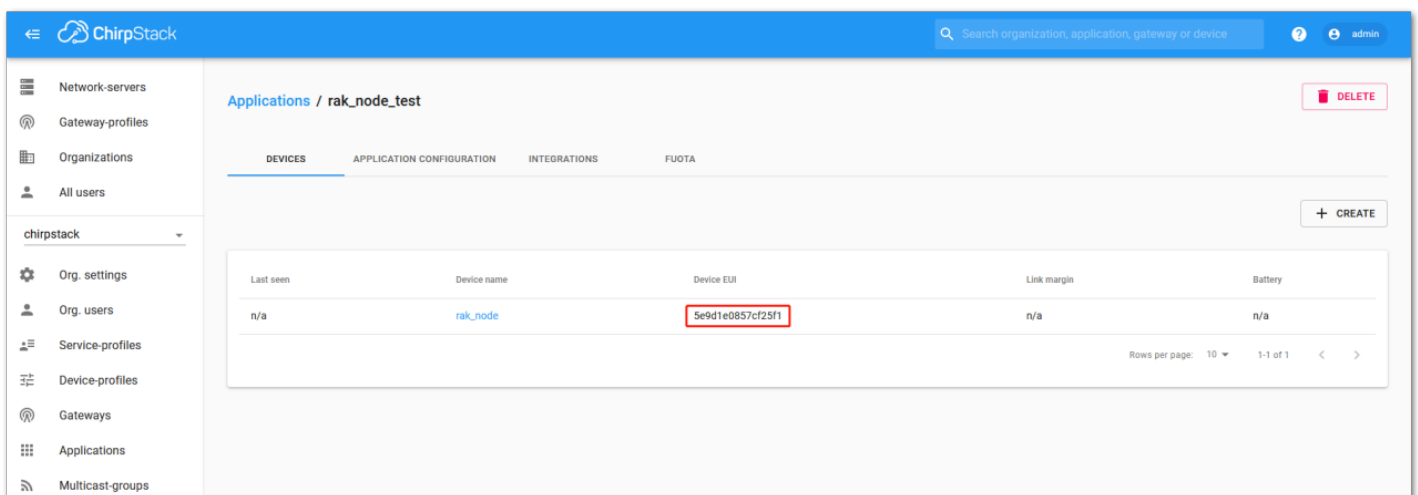

Figure 216: Chirpstack OTAA List of Device in the Device Tab
- As shown in **Figure 216**, a new device should be listed in the **DEVICES** tab. The most important parameters, such as the **Device EUI**, are shown in the summary.